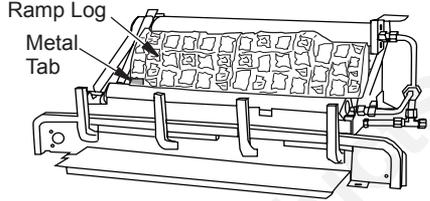
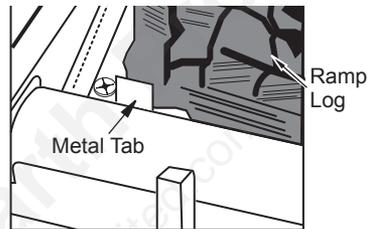

Figure 34 - Installing Fiber Ramp Log
Figure 34a - Installing Ramp Log
1. Place fiber ramp log in center of chassis as shown in Figure 34. The fiber ramp log can be identified by the shape and much lighter weight when compared to the other logs. The log must sit flat on the black sheet metal and behind the left metal tab as shown in figure 34a. Make sure the side marked "BOTTOM" is setting down.